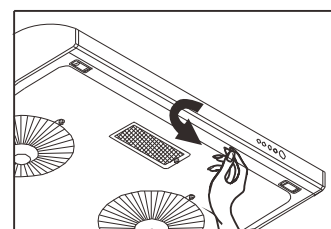

Fig. 4-3
- b. Screw on the screws which on the middle of bottom plate, push inner and draw down the nylon plate, then you can take apart the bottom plate. (fig. 4-3/4-4)